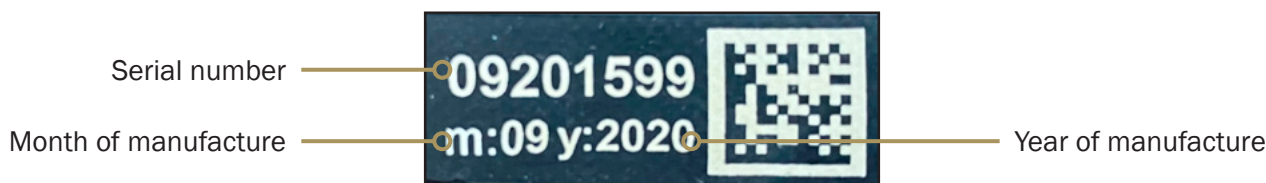

Figure 4.4: Serial number of a lifting bag.
The example in Figure 4.4 shows a lifting bag manufactured in September (09), year 2020